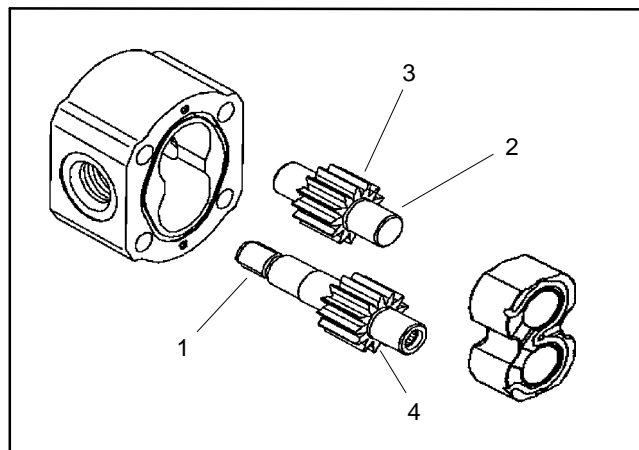

Figure 71
3. Inspect drive gears and idler gears for the following (Fig. 71):